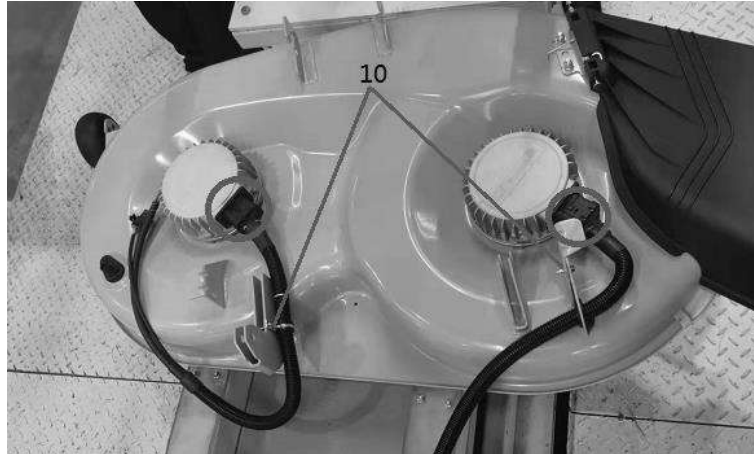

Fig. 3
- Using an 8mm socket, remove the binding bolts (10) of the two cable harness clips on the header by rotating counterclockwise, and disassemble the motor connectors as circled in red in the Fig.3